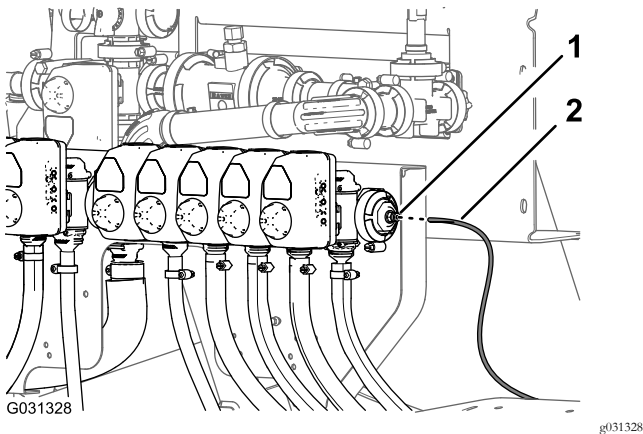

Figure 139
1. Align the end of the pressure-sense tube (plastic) for the pressure gauge in the dash with the locking collar for the tube coupler (Figure 139).
2. Insert the sense tube into the locking collar until the tube is fully seated (Figure 139).